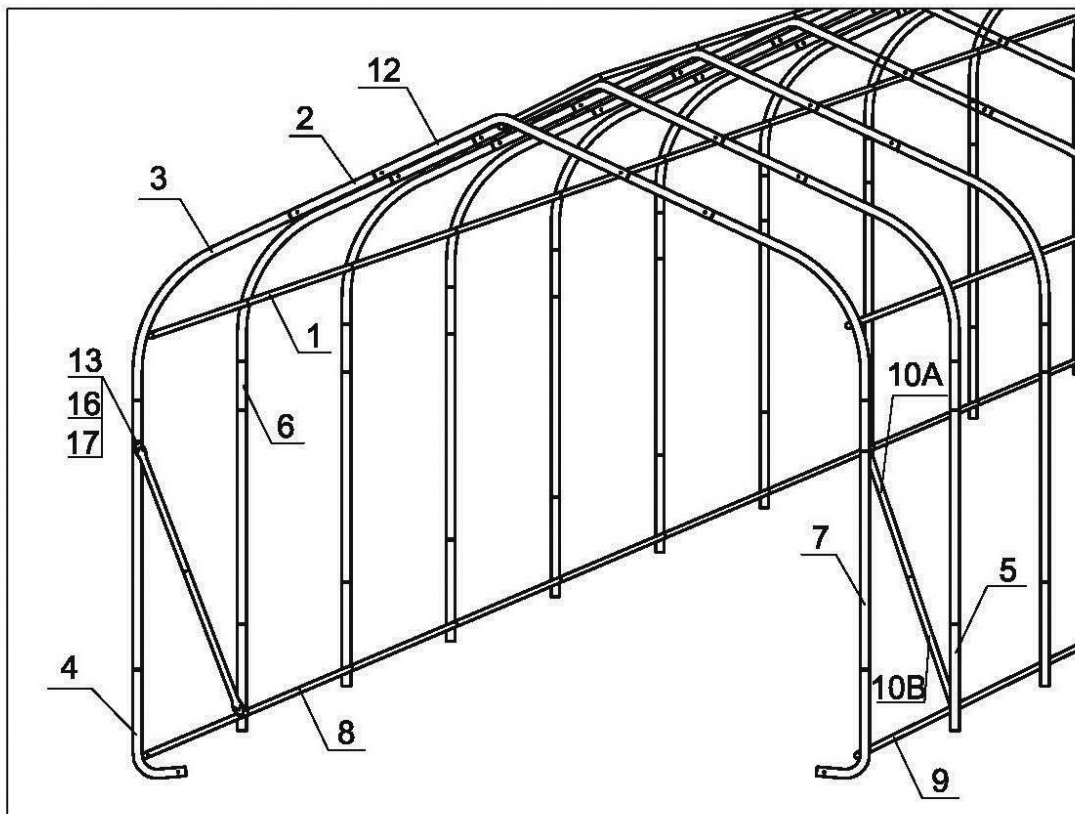

Figure 2
2. At the base of that same End Bow, attach (8) to the base of (4). Swing the end of (10a+b) over to the connection of (5) and the end of (8). The tapered end of each (8) fits into the next (8). Use bolts (13), washers (17), and nuts (16) for this end of (10a+b) also. Do not completely tighten at this time because minor frame adjustments will be done later. Repeat these steps on the opposite end of the End Bow. Continue assembling (8) between all of Middle Bows until the final Middle Bow, using hardware listed below. See Figures 2 & 3.
3. Bolt all connections with bolts (14) and nuts (16) unless otherwise indicated. All nuts need to be on the inside of the frame.